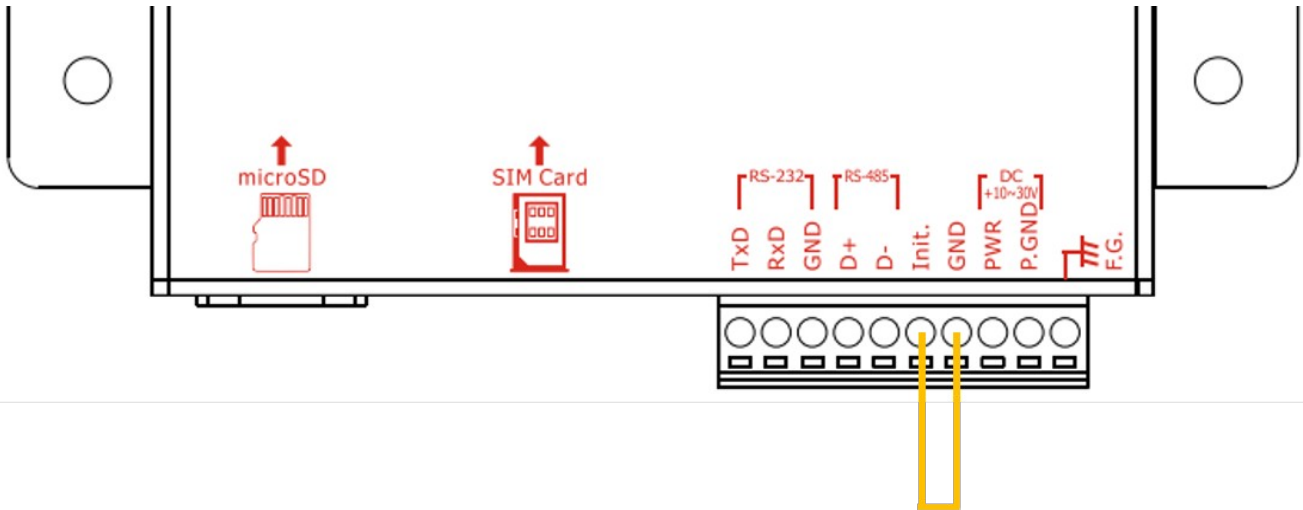

Figure 6.10.1
- A. Determine that the 4th pin and the 5th pin on the GTP-541M are successfully connected, as shown in Figure 6.10.1